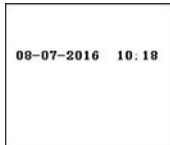

Fig.5
2. While still in this display (Fig.3), press the  key and hold for 3 seconds until a beep sound, indicates entered into the program. The display will change and show as in Fig.5 below.